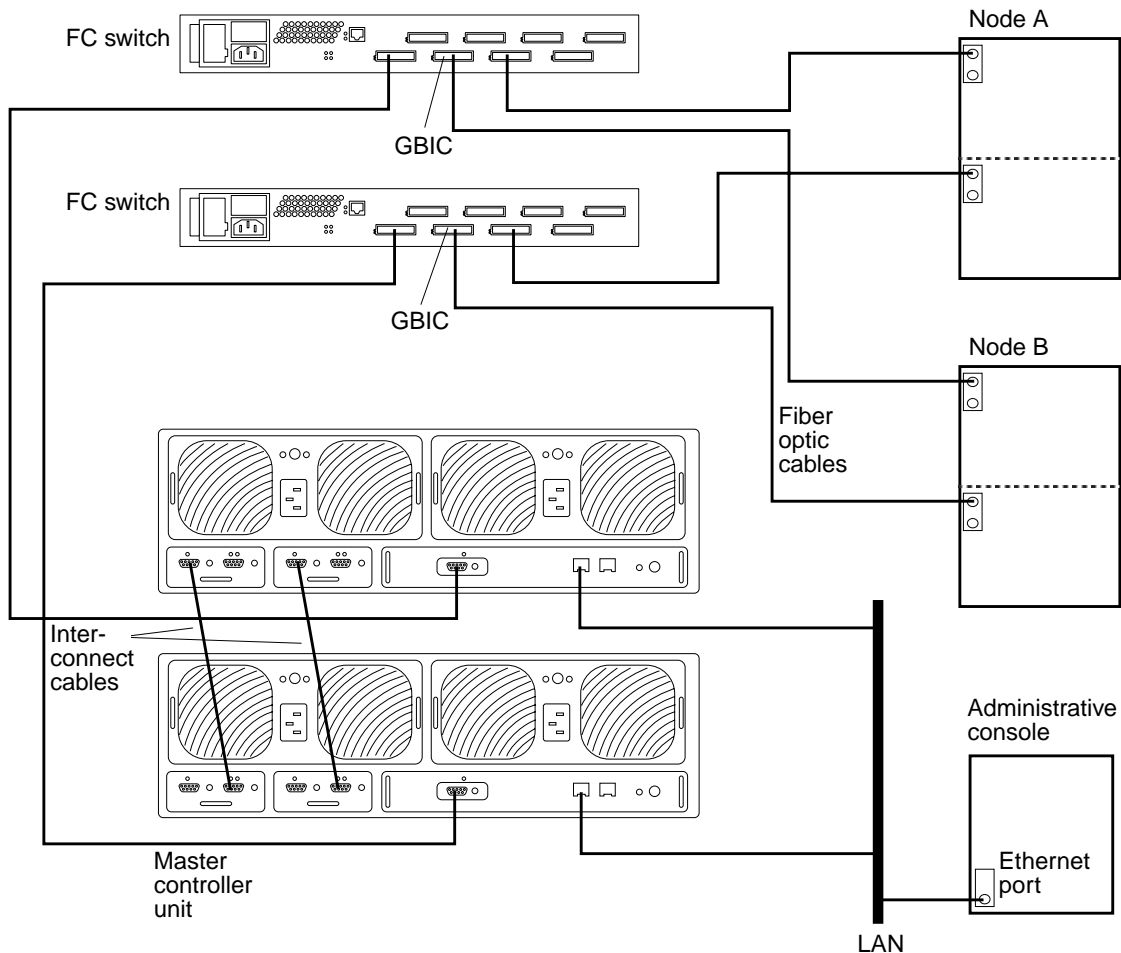

FIGURE B-4 Adding a Sun StorEdge T3/T3+ Disk Tray, Partner-Pair Configuration
43. If necessary, install GBICs to the FC switches, as shown in FIGURE B-4.
44. Connect fiber optic cables between the FC switches and Node B as shown in FIGURE B-4.